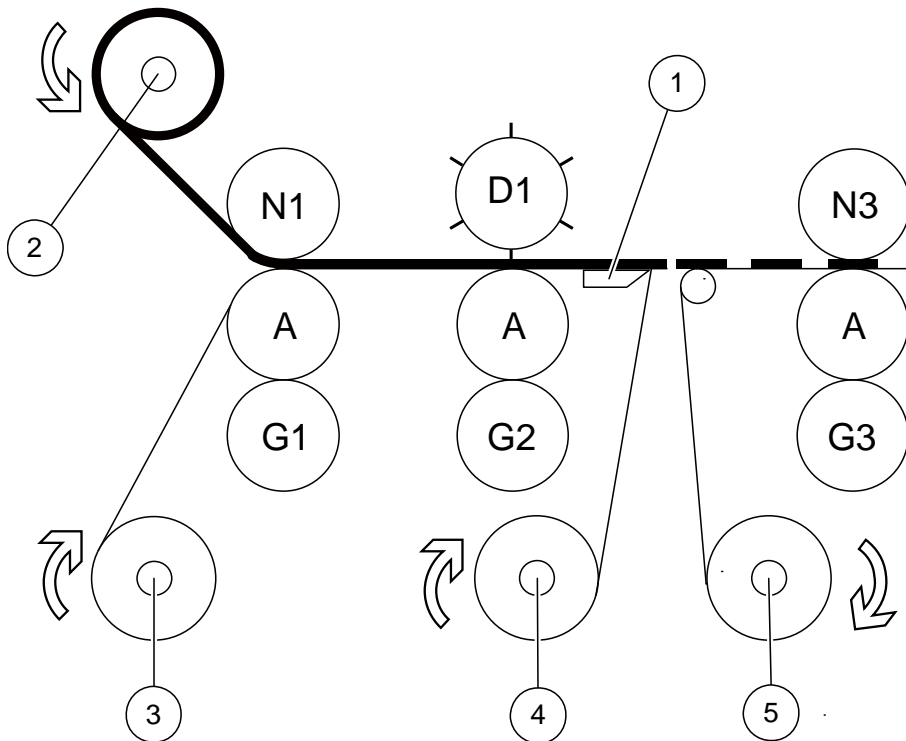

Figure 7-68 Installing liner release knife and air shaft
(1) Liner release knife (2) Air shaft 1 (3) Air shaft 2 (4) Air shaft 3 (5) Air shaft 4
Install liner release knife (1), air shaft 1 (2), air shaft 2 (3), air shaft 3 (4), air shaft 4 (5) according to Figure 7-68.